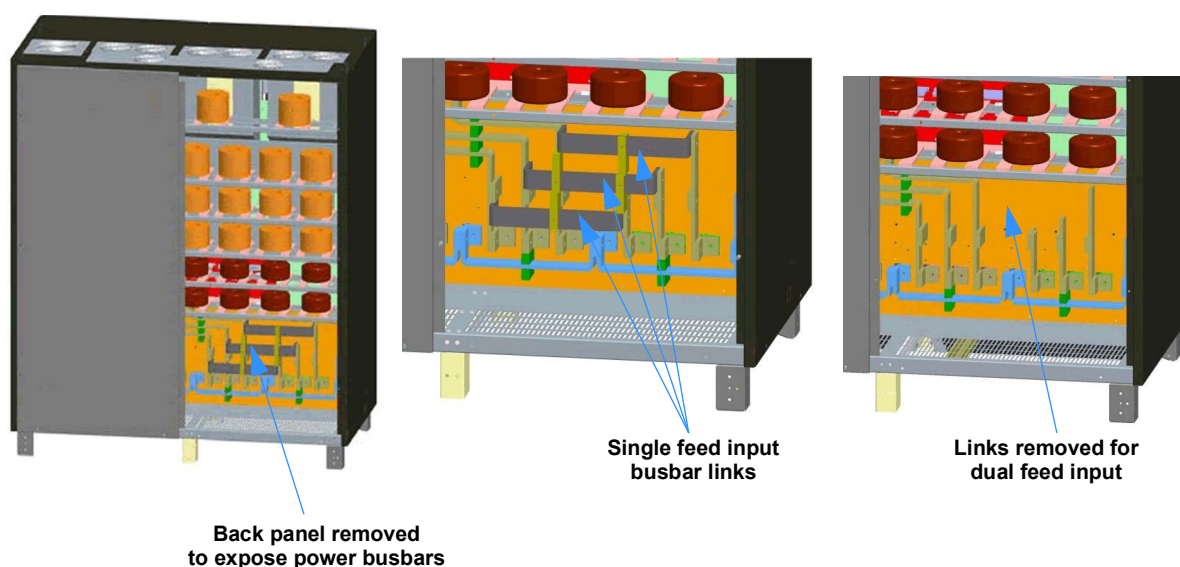

Figure 3.21 Input configuration links
3. Remove the three busbar links identified in Figure 3.21. They are secured by 6x M10 nuts and bolts.